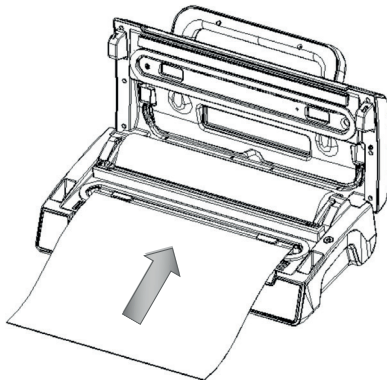

Fig. 5
5. Put one end of the bag on top of the sealing element into the bag fixture. (Fig.5)